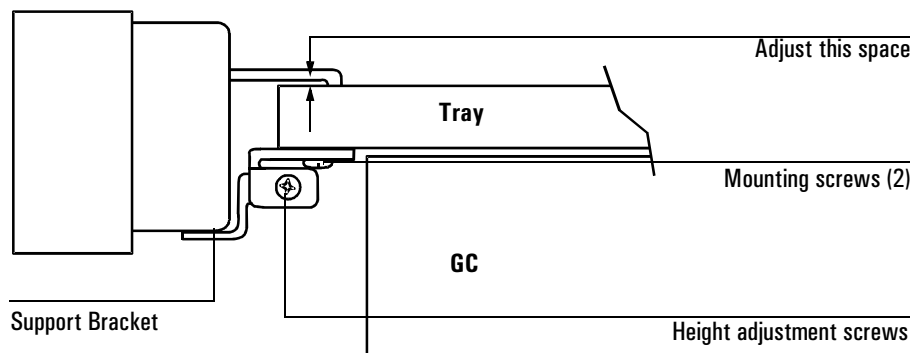

Figure 4 The Bar Code Reader support bracket
5. Adjust the Bar Code Reader's height. Slightly loosen the height adjustment screw on the side of the support bracket and raise or lower the bracket until there is a very small gap—about the thickness of a piece of paper—between the mounting clips on the bar code reader and the tray. See Figure 4. Tighten the height adjustment screw.